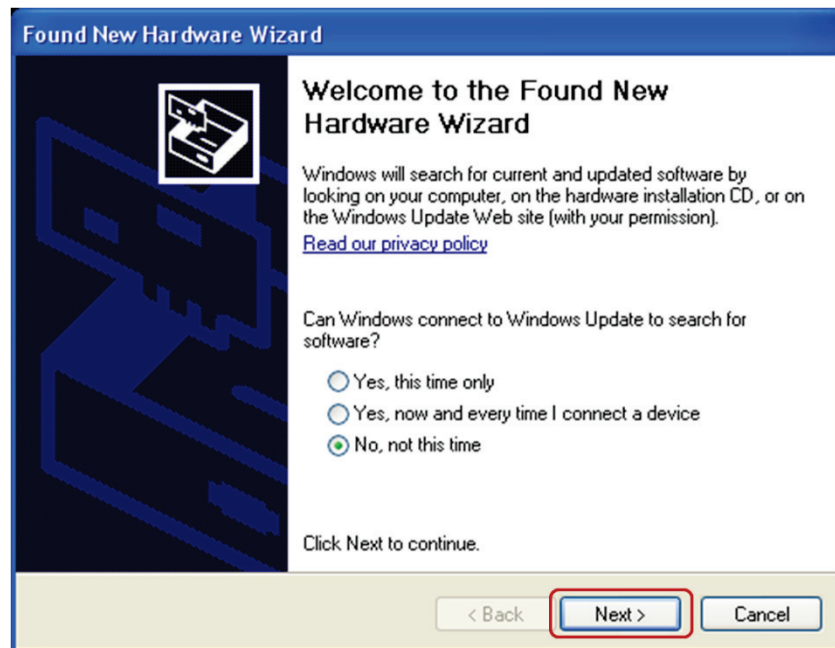

Figure 6
7. Select **No, not this time** to not search the Windows® Update website. Then select the **Next >** button (Figure 6).